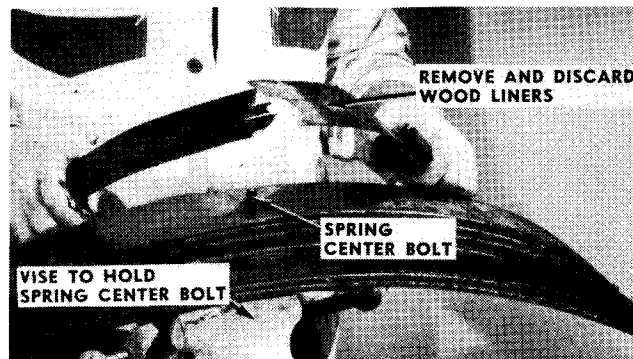

FIG. 2
3. Disassemble spring. Discard wood liner separators on cars so equipped. See Fig. 2.